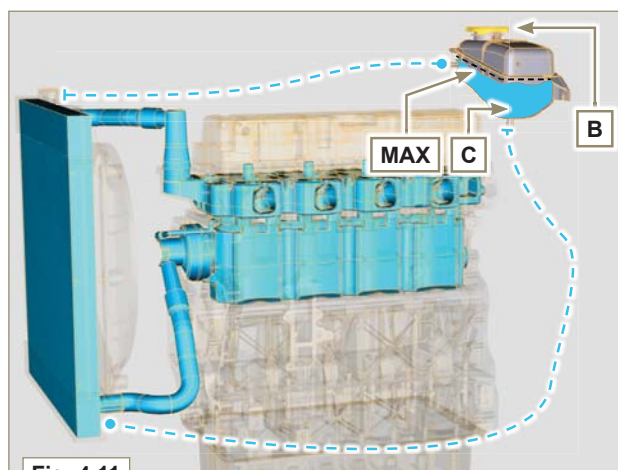

Fig. 4.11
- 1 - Start the engine without the radiator cap **A** or the expansion tank (C) cap **B** (Fig. 4.11).
- 4 - If there is an expansion tank (C) top liquid up to the mark **MAX** (Fig. 4.11).
- 6 - Tighten the radiator cap **A** or the expansion tank (C) cap **B**.